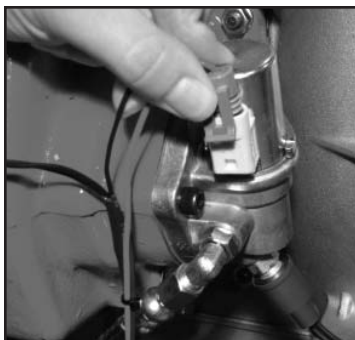

Fig. 12
12. Complete the assembly by installing the electrical connection to the valve assembly (**Fig. 12**) and the pressure switch (**Fig. 13**).